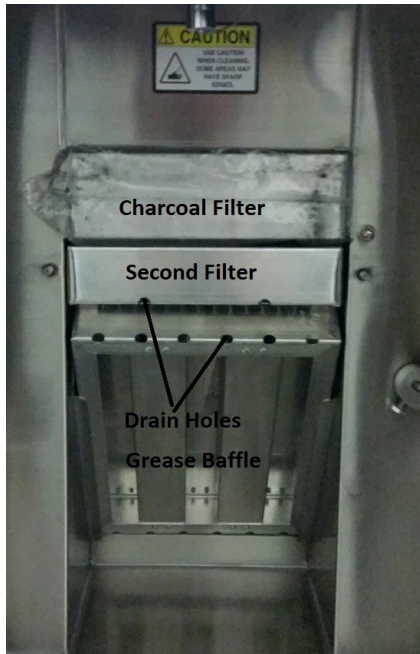

fig. 4
- **Remove the charcoal filter from the plastic bag.** Insert it into the tracks above the second filter (fig. 4).
These drain holes must be facing down in order for the filters to efficiently drain and clean the air (fig. 4).